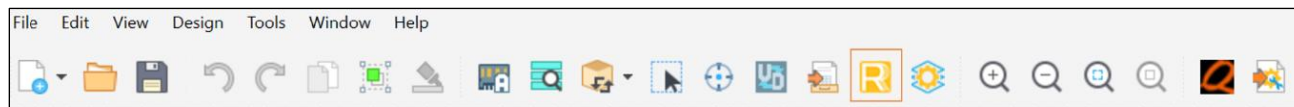

Figure 5.9. Lattice Radiant Icon in Lattice Propel Builder
- To synthesize the RTL files and generate the bitstream, click the Lattice Radiant icon in the Lattice Propel Builder as shown in Figure 5.9.